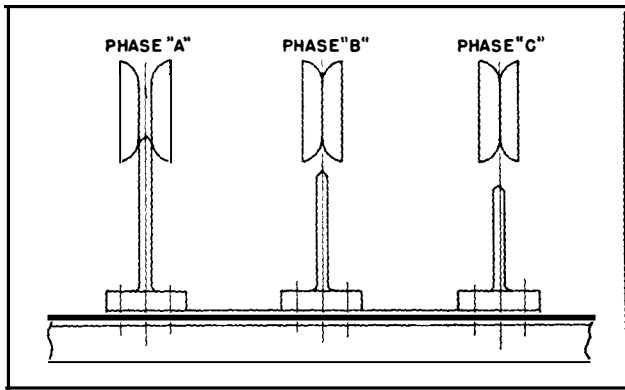

FIG. 4. Phasing Sequence A-B-C or H1-H2-H3.
grounding may be either $H_1-H_2-H_3$ or $H_3-H_2-H_1$. The former is standard and will be furnished unless otherwise specified on the order. See Fig. 4 and 5.
1. When pin marked A on the handle stops the movement, the contacts are engaged for phase A as shown in Fig. 4, Phases B and C are open-circuited. Check for circuit through phase A with test voltage, then tag.